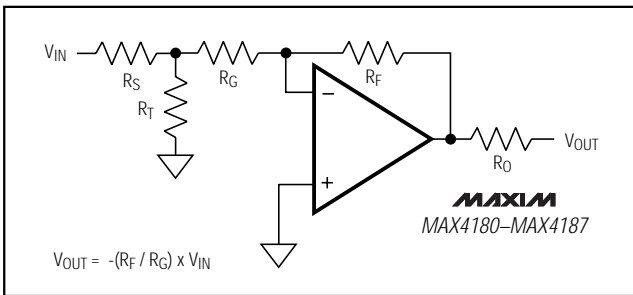

Figure 4a. Inverting Gain Configuration
The optimum value of the external-feedback (RF) and gain-setting (RG) resistors used with the MAX4180–MAX4187 depends on the closed-loop gain and the application circuit's load. Table 1 lists the optimum resistor values for some specific gain configurations. One-percent resistor values are preferred to maintain consistency over a wide range of production lots. Figures 4a and 4b show the standard inverting and noninverting configurations. Note that the noninverting circuit gain (Figure 4) is 1 plus the magnitude of the inverting closed-loop gain. Otherwise, the two circuits are identical.